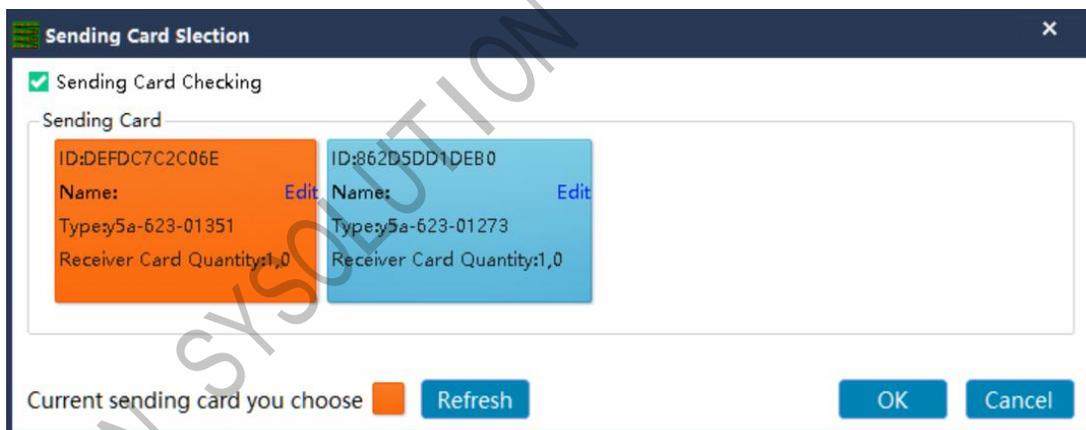

Figure 4-2-3-2 Change sender
- ✓ **Change Sender Card:** When multiple sender cards are accessed at the same time, you can click the Change sender button to switching sender, as shown in Figure 4-2-3-2.